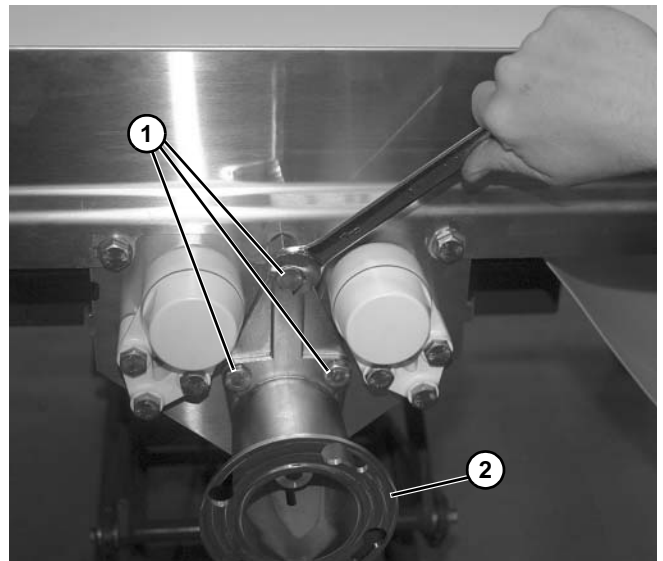

Figure 180
4. Remove three screws (**Figure 180, item 1**) securing motor mount (**Figure 180, item 2**) onto conveyor side plate.